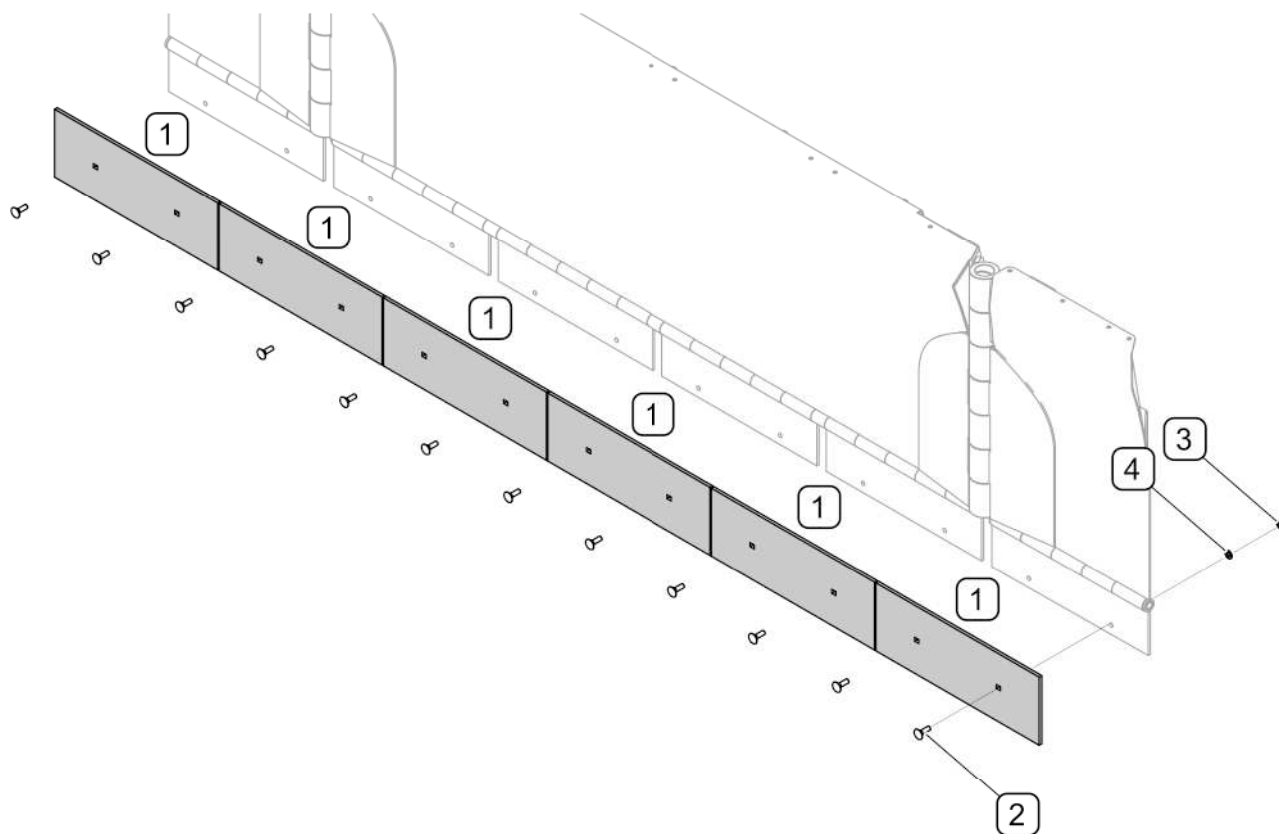

FIG. 5.2 Replacement of steel blades
(1) - steel blade; (2) - bolt M12x40-8.8; (3) - nut M12-8; (4) - washer 12-100HV
Steel blades of the scraper – blade's mouldboards (FIG. 5.2) consist of 6 identical segments (1). To remove a steel blade (1), unscrew proper nuts (3), remove bolts (2) that fix the blade to the mouldboard. Install a new blade and assemble it performing the above activities in reverse sequence. The blades that are worn on one side can be turned on the other side and